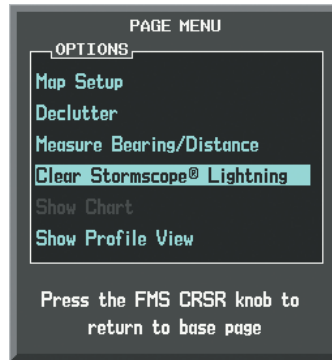

Figure 6-117 Navigation Map Page Options Menu
- 2) Select 'Clear Stormscope® Lightning' (Figure 6-117).